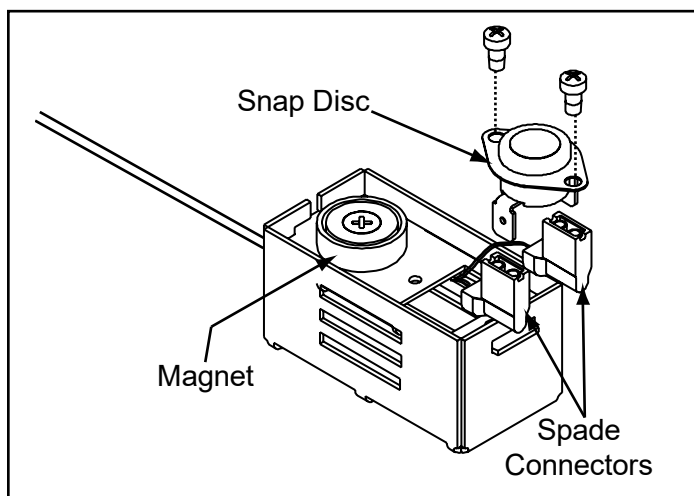

Figure 22.1
5. Pull the snap disc and spade connectors up and out of bracket as shown in **Figure 22.1**